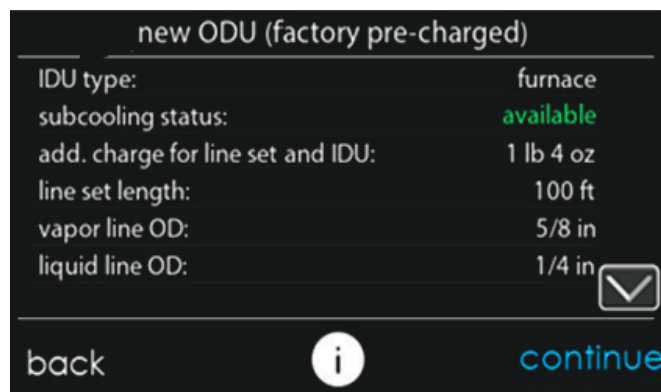
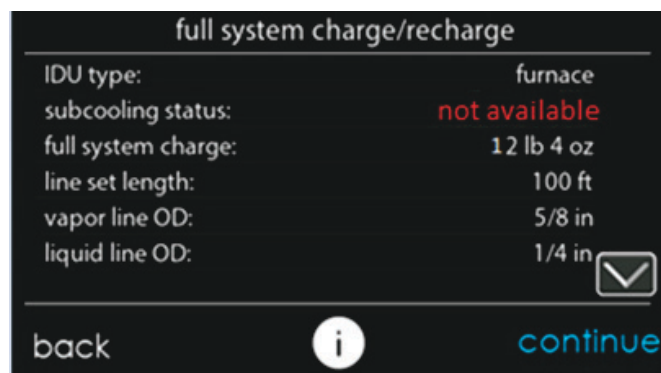

Fig. 16 – New ODU (factory pre-charged) - Subcooling Available
Fig. 17 – Full System Charge/Recharge - Subcooling Unavailable
- If indoor and outdoor conditions are in range, subcooling status will be green and available (Fig. 16). If conditions are outside the range, subcooling status will be red and unavailable and will require a partial weigh-in of charge (Fig. 17). Both “new ODU (factory pre-charged)” and “full system charge/recharge” modes will allow the user to move forward to start the system regardless of whether subcooling charging is available. Lineset configuration and climate zone / ODU material type can be changed by selecting appropriate line if needed. For “new ODU (factory pre-charged)” record the ADDITIONAL charge amount listed. For “full system charge/recharge”, record the FULL system charge amount listed. Press continue.